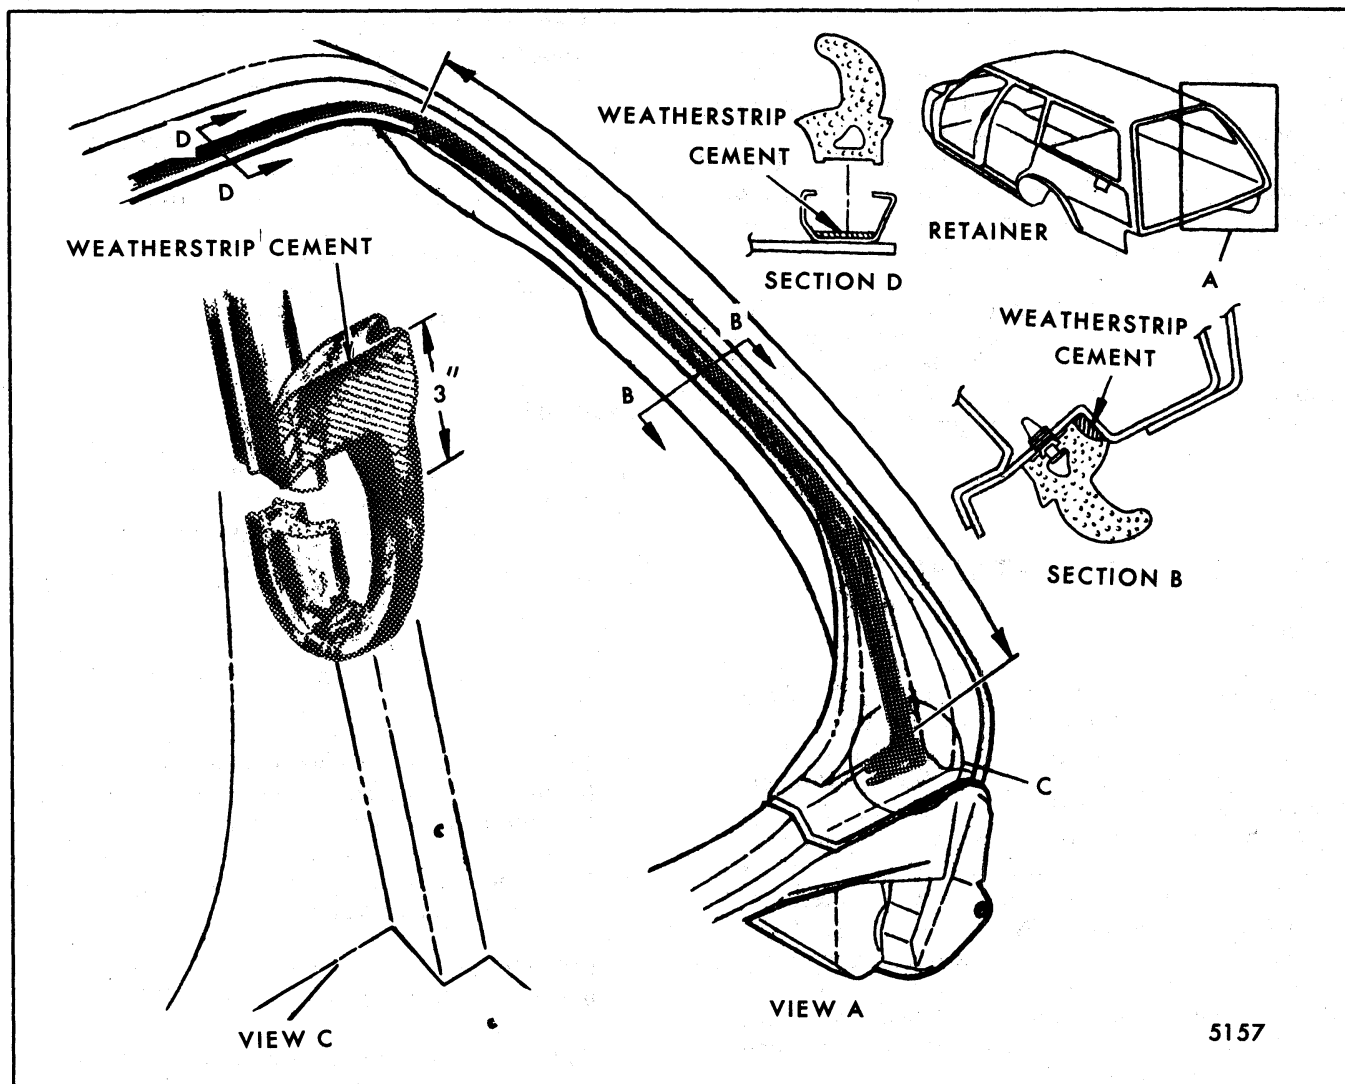

Fig. 7-83-Back Body Opening Weatherstrip Installation
A one-piece weatherstrip seals the tailgate along both sides and across the top of the back body opening. At the top of the opening, the weatherstrip is cemented into a weld-on retainer. Nylon fasteners are a component part of the weatherstrip and secure the weatherstrip along the sides of the opening by engaging piercings in the back body pillar. Serrations on the fasteners retain the fastener into the piercings and seal the openings from water entry. In addition, a bead of weatherstrip cement is applied between the outboard surface of the weatherstrip and the vertical wall of the back body pillar along each side of the back body opening, as well as beneath the lower end of the weatherstrip (Fig. 7-83).
4. Locate upper weatherstrip fasteners (each side) to uppermost piercings and insert weatherstrip into retainer as shown in Figure 7-83.